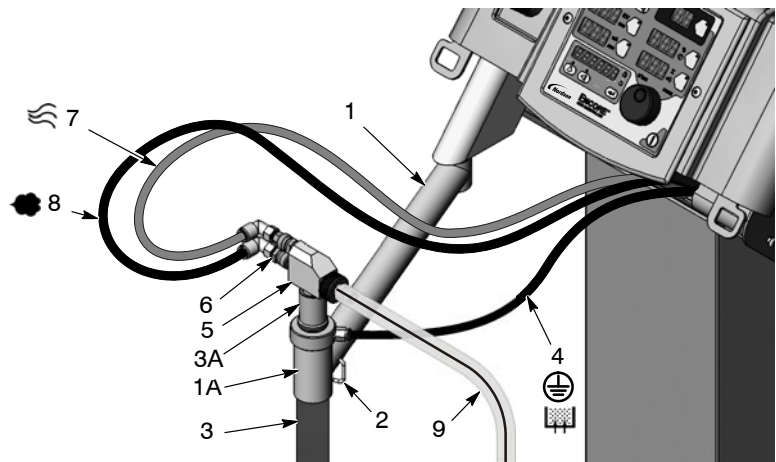

Figure 3-6 VBF System – Pickup Tube and Pump Installation
1. See Figure 3-6. Unpack the pickup tube (3).
2. Swing the pickup tube arm (1) out over the vibrator table, move the pickup tube catch (2) out of the way, then slide the pickup tube through the tube holder (1A).
3. Install the pump (5) into the pump adapter (3A) with a slight twisting motion.
- 8-mm blue atomizing air tubing (7) into the top tube fitting on the pump,
- 8-mm black flow air tubing (8) into the bottom tube fitting on the pump
- 6-mm black fluidizing air tubing (4) into the tube fitting on the pick-up tube.
- NOTE:** The pump is equipped with quick-connect couplings (6). Pull back on the knurled coupling rings to uncouple them.
5. Connect one end of the powder hose (9) to the pump.